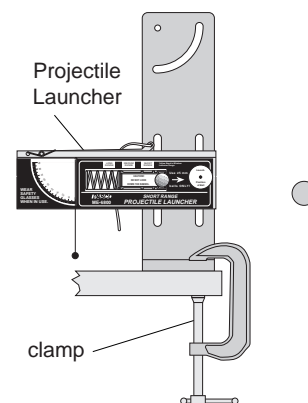

Figure 1.3 Projectile Launcher Setup
- ① Clamp the Projectile Launcher to a sturdy table near one end of the table.
- ② Adjust the angle of the Projectile Launcher to zero degrees so the ball will be shot off horizontally. See Figure 1.3.